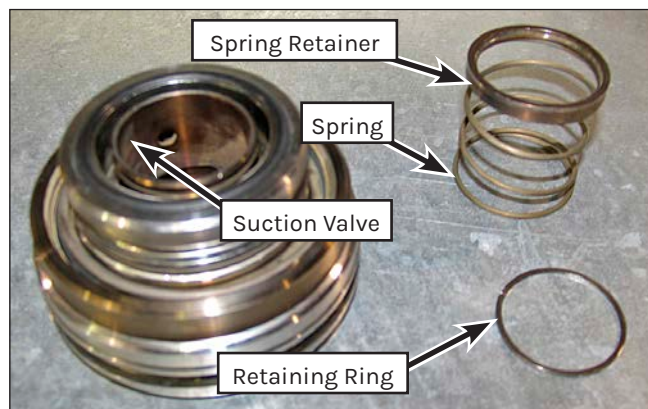

Figure 116: Suction Valve Installation.
3. Position the suction valve in the valve body (Figure 116).